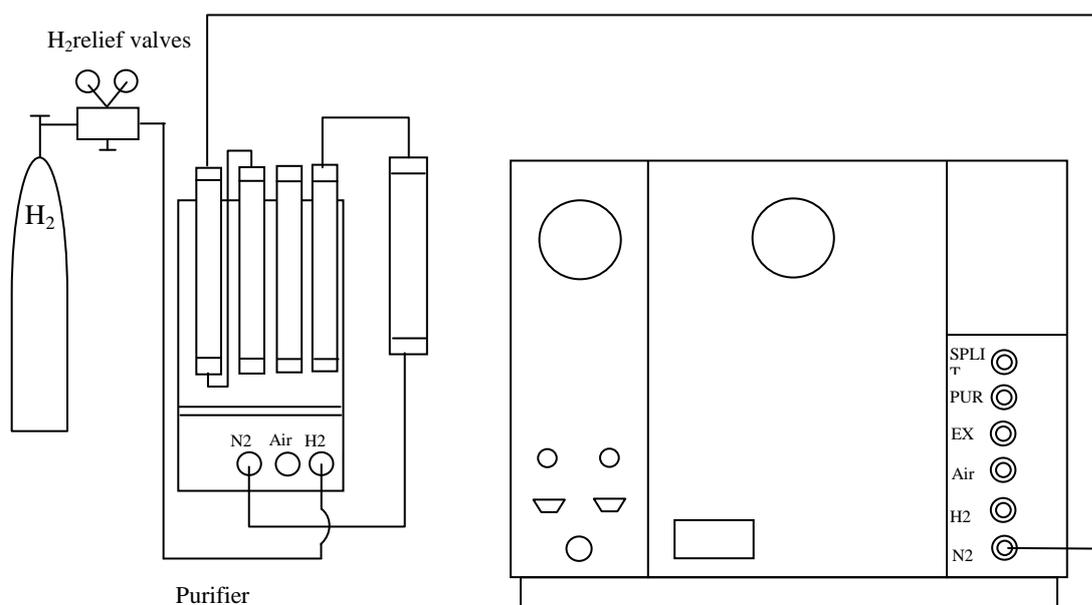

Figure 7-9 De-oxidation tube connection sketch
- b) Hydrogen should be strictly de-oxidized to prevent TCD strange peak occurring during temperature program. De-oxidation tube may be used de-oxidation. Please refer to Figure 7-9 for de-oxidation tube connection. Pure nitrogen (oxygen concentrate  $\leq 1$ ppm) shall also be used as carrier gas.